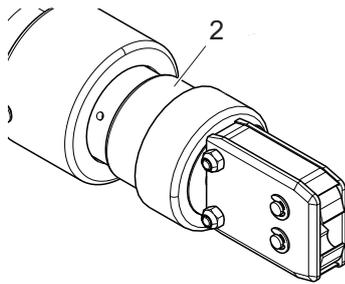

Fig. 13: Rotate the pincer head
2. Hold the pincer head in area 2 (Fig. 13/2) and turn it to the desired position.